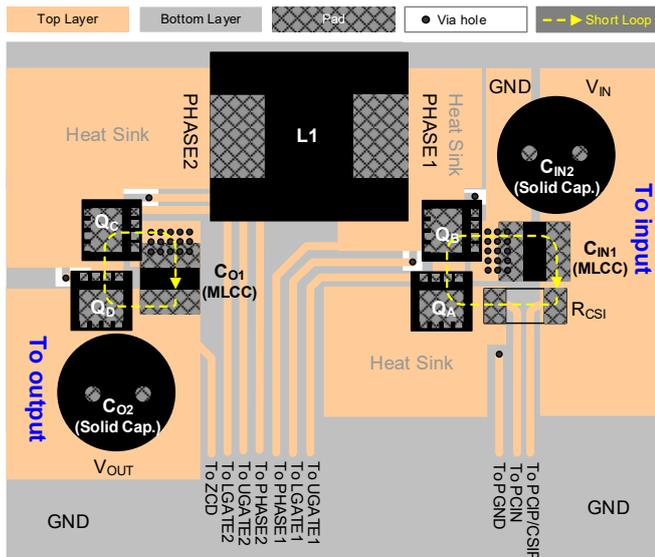

Figure 6. Recommended PCB Layout of the Power Stage
- ▶ Figure 6 is a recommended placement of the PWM buck-boost power-stage. Two critical loops “from  $C_{IN1} \rightarrow R_{CSI} \rightarrow QA \rightarrow QB$  to  $C_{IN1}$ ” and “from  $CO1 \rightarrow QD \rightarrow QC$  to  $CO1$ ” must be as short as possible to minimize the switching noise at PCIP/CSIP, PCIN, PHASE1, PHASE2 and ZCD pins. The shorter paths also help to reduce radiated EMI. It is necessary to use an MLCC ( $10\mu F/50V$ , X5R/X7R) for the input capacitor ( $C_{IN1}$ ) and output capacitor ( $CO1$ ). For reducing the input and output voltage ripples during heavy load operation, it is recommended to add more MLCCs or solid input and output capacitors. Moreover, to improve heat dissipation, one needs to increase the PCB areas for drains of high-side and low-side MOSFETs.